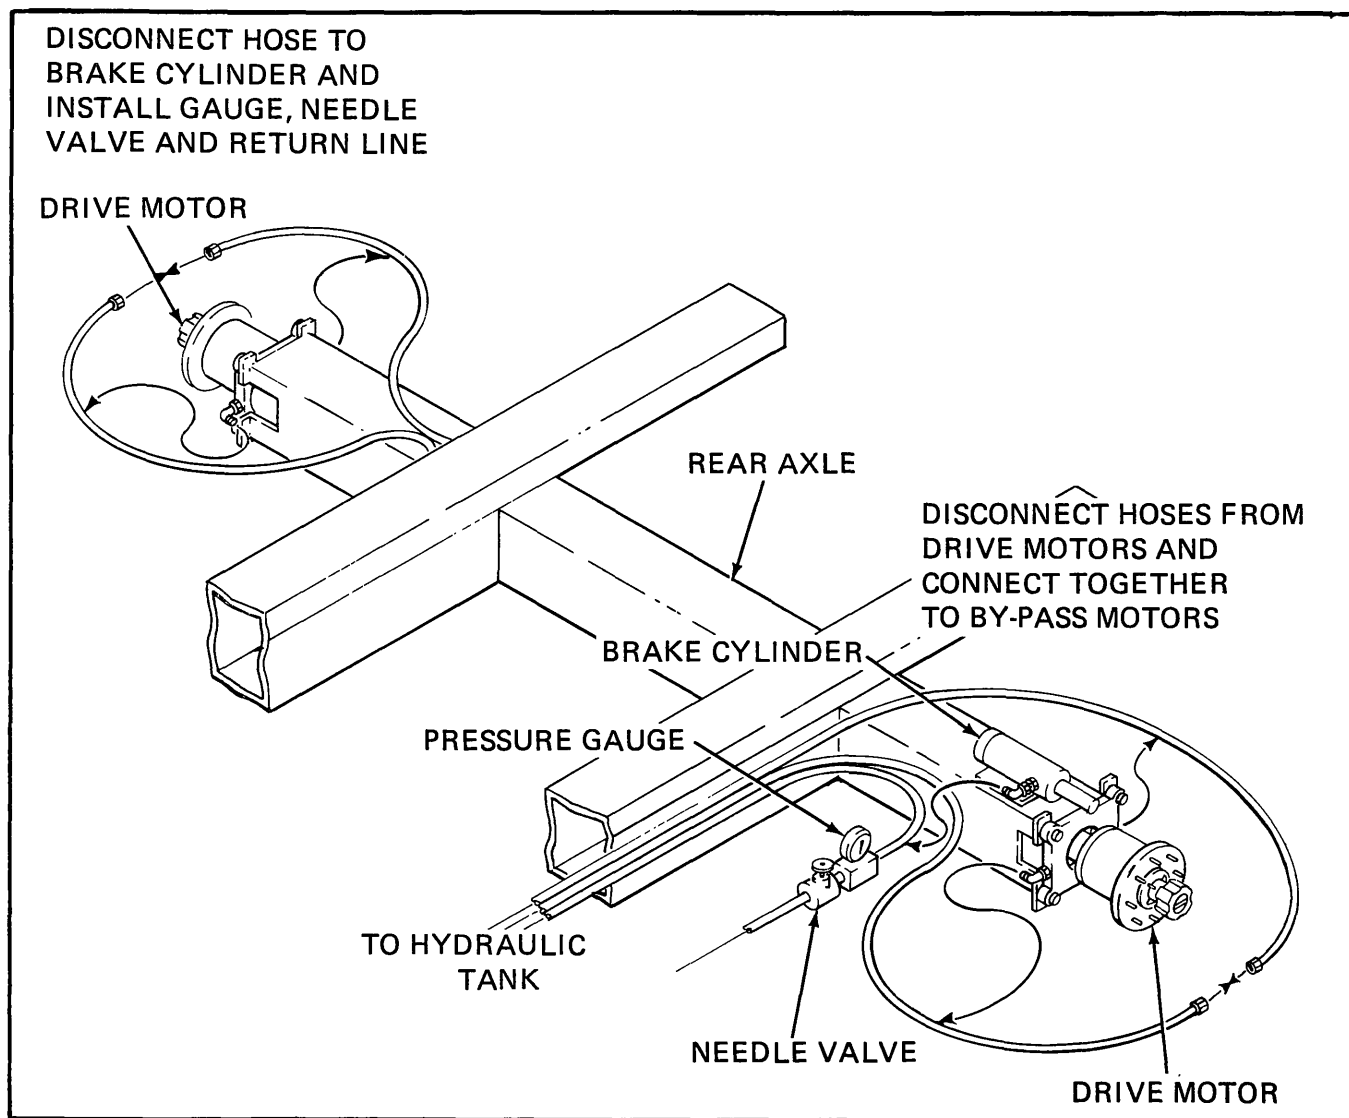

Figure 5-7. Counterbalance Valve Test Procedures
(1) Disconnect the hydraulic hose from the brake cylinder and connect a pressure gauge and needle valve with a return line to the hydraulic reservoir.
(2) Disconnect the two hydraulic hoses to each drive motor and connect them together thus, bypassing the drive motors (Figure 5-7).